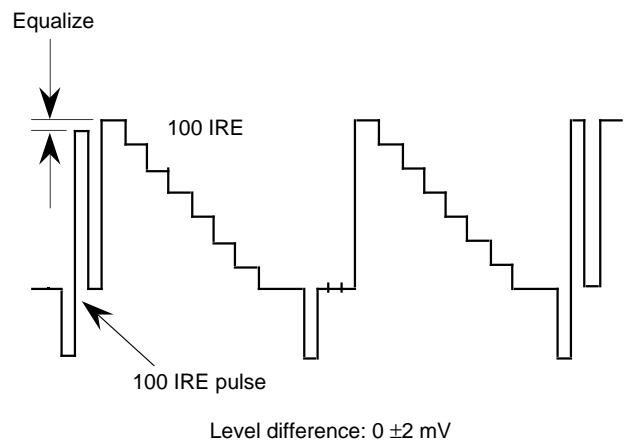

Fig. 5-13
3. As shown in Fig. 5-13, adjust the R 100 IRE data so that the 100 IRE level and 100 IRE pulse level of the signal become equal.
5. As shown in Fig. 5-13, adjust the G 100 IRE data so that the 100 IRE level and 100 IRE pulse level of the signal become equal.
7. As shown in Fig. 5-13, adjust the B 100 IRE data so that the 100 IRE level and 100 IRE pulse level of the signal become equal.